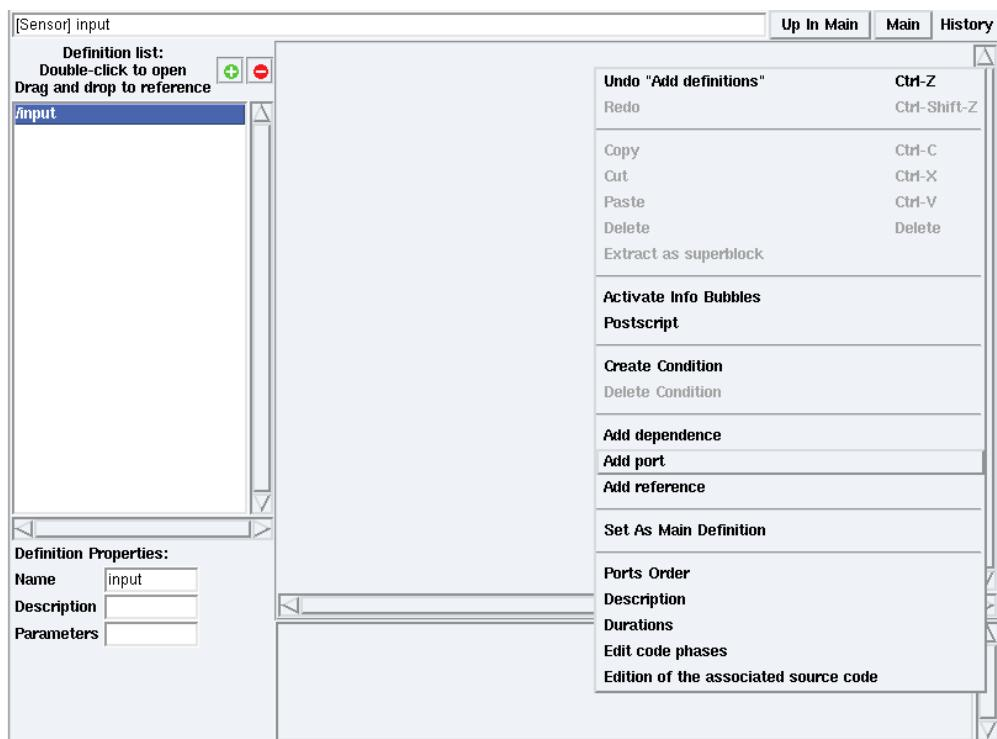
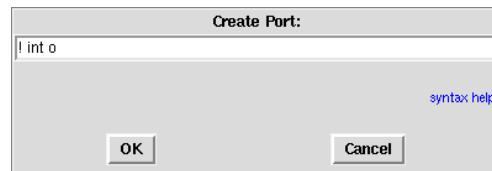
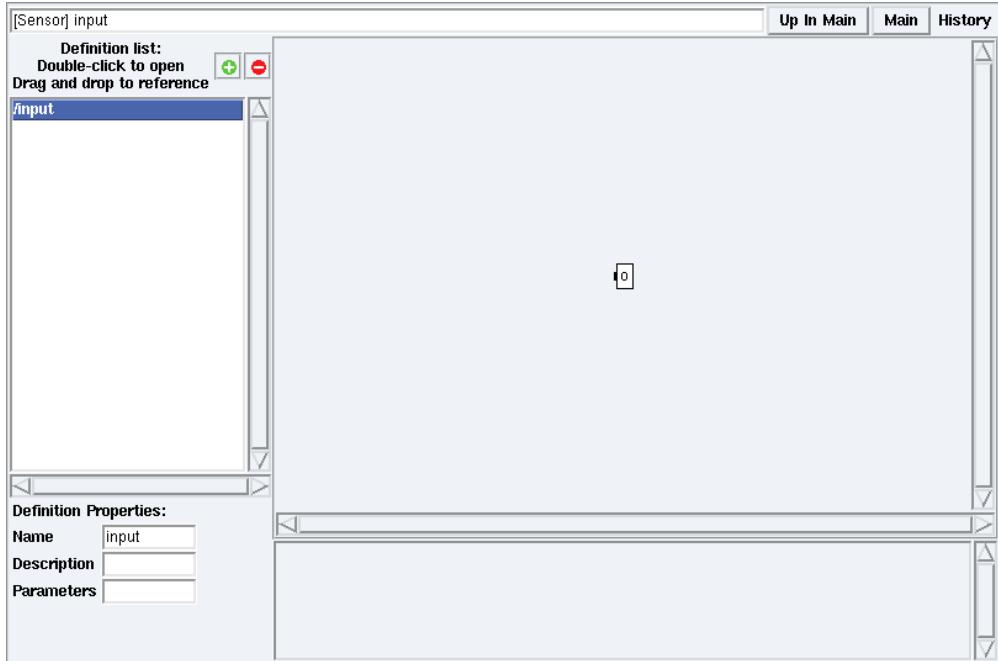

Figure 1.5: Contextual menu → **Add port**
Figure 1.6: **Create Port**
Figure 1.7: Sensor definition window after output port created
- in `input` definition mode, right click on the background and select **Add port** (*cf. figure 1.5*). It opens a dialog window for the port's direction, type, name and optionally its size. For example type `! int o`, then click **OK** (*cf. figure 1.6*). It creates the integer output port `o` (*cf. figure 1.7*) in the sensor definition window.